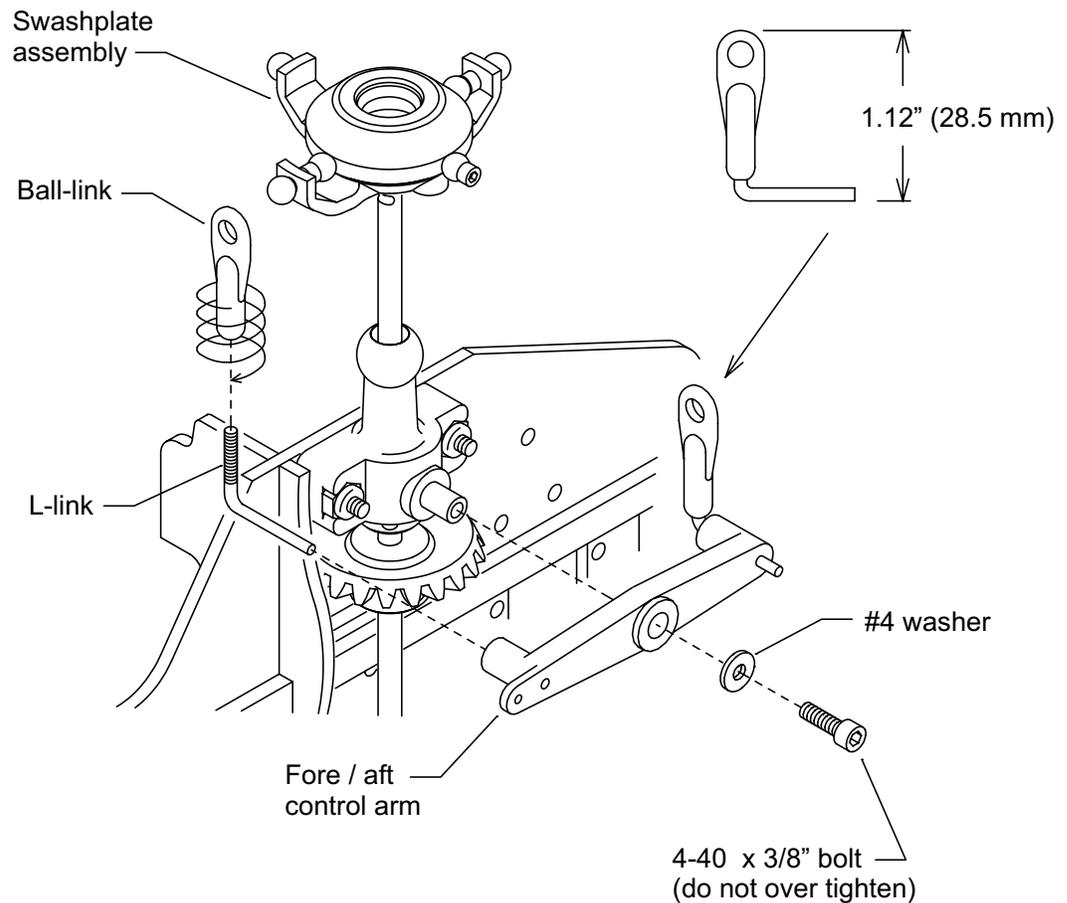

**Figure 8-2.**
- ❑ 3. Insert one end of a 1/16" hex wrench through the hole in the plastic surrounding the inner race as illustrated by Fig. 8-2. Rotate the race ring until the notch lines up with the end of the wrench . The wrench will prevent the race ring from rotating while you screw on the outer race.
- ❑ 6. Slip a metal universal ball onto a 2-56 x 3/8" bolt, and screw the bolt into one of the holes in the outer race to lock the outer race and race ring together as shown in Fig. 8-2. The bolt should extend through the outer race and into a locking hole in the race ring. Do not accidentally tighten the bolt against the threads on the outside of the race ring. If you do, the race ring will distort and the swashplate will not work properly.